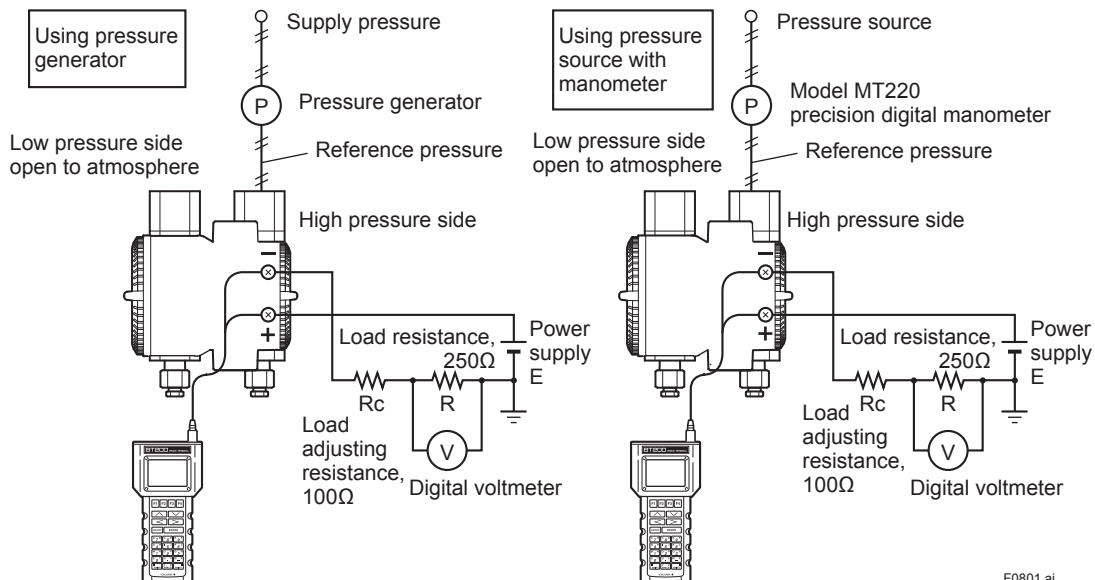

Figure 8.1 Instrument Connections (EJX110A, 4 to 20mA output)
- 1) Connect the transmitter and apparatus as shown in Figure 8.1 and warm it up for at least five minutes.
- 1) Connect the instruments as shown in figure 8.1 and warm up the instruments for at least five minutes.